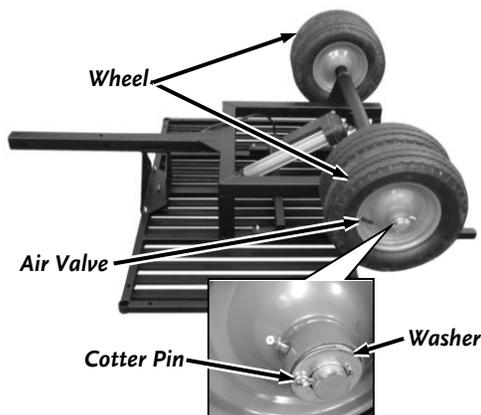

Figure 10
5. Slide a second Wheel onto each end of the Axles with the Valve Stem facing out (Figure 10).